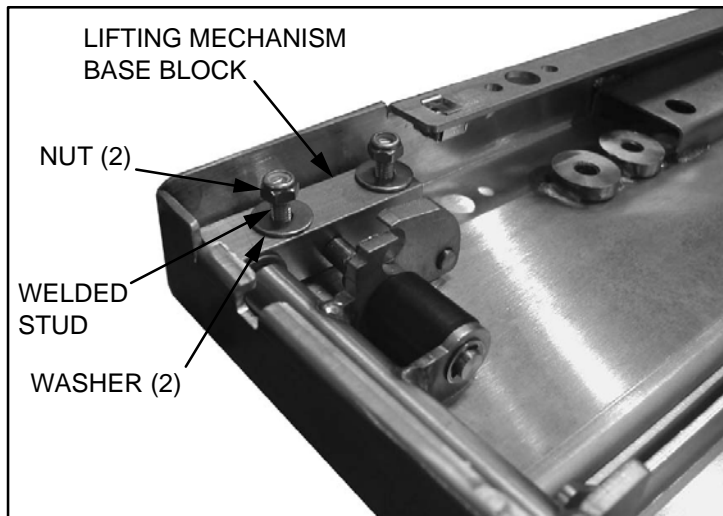

FIGURE 4-9: LIFTING MECHANISM REMOVAL
- d. Refer to **Figure 4-9**. Remove two nuts and two washers then remove lifting mechanism base block from welded stud.